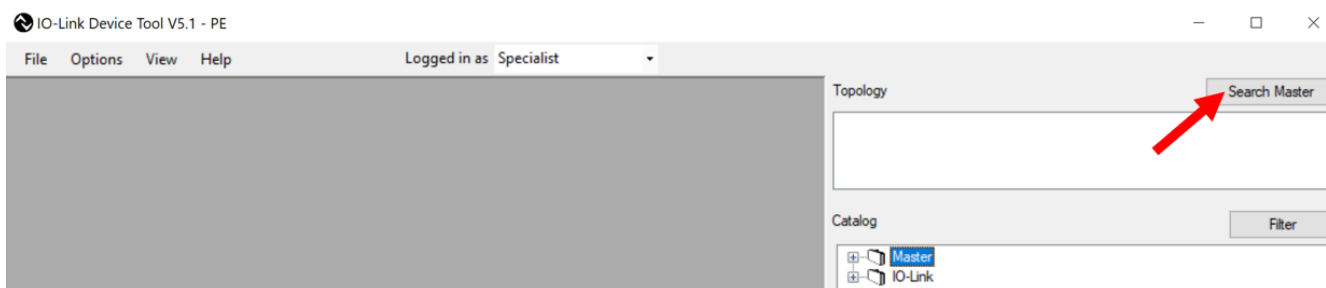

Figure 3. Search Master
- a. Click on “Search Master” in the main “IO-Link Device Tool VS5.1 – xE” window (see Figure 3).